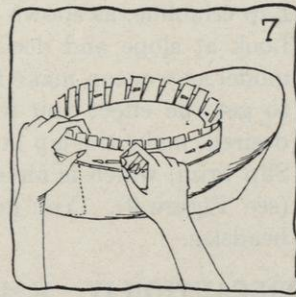

FIG. 7.
- g. Pin the slashes to headsize band (see Figure 7).